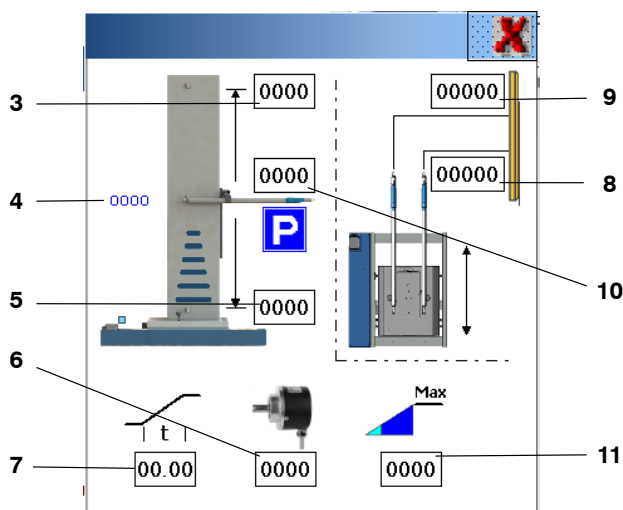

Figure 16 Gun Mover Configuration Window (see next page)
- 2 – **Tools button** – When the tools button is pressed on this page, a configuration window opens to allow data input. See figure 16